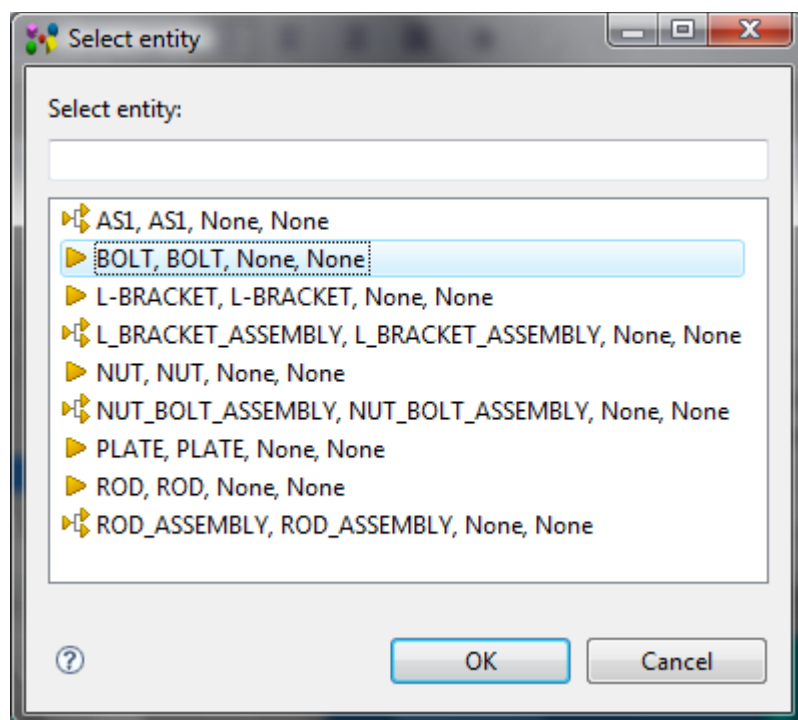

Figure 5. Select entity dialog window
- Press the button next to the text field. The **Select entity** dialog window appears on the screen (see Figure 5):